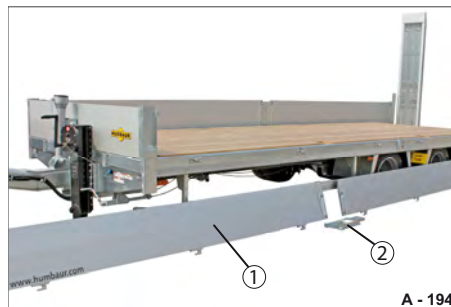

Fig. 135 Setting down the platform gates safely
- Make sure that the removed platform gates (Fig. 135/1) and middle post (Fig. 135/2) are set down safely to avoid damage.